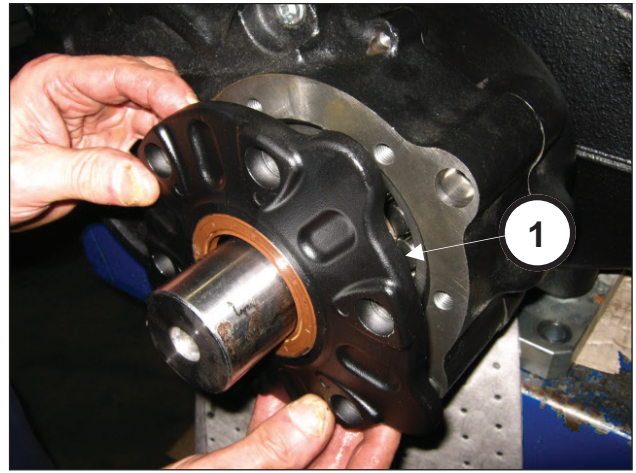

Fig. 80
Insert the pinion cover in its housing (pos. ①, Fig. 80).